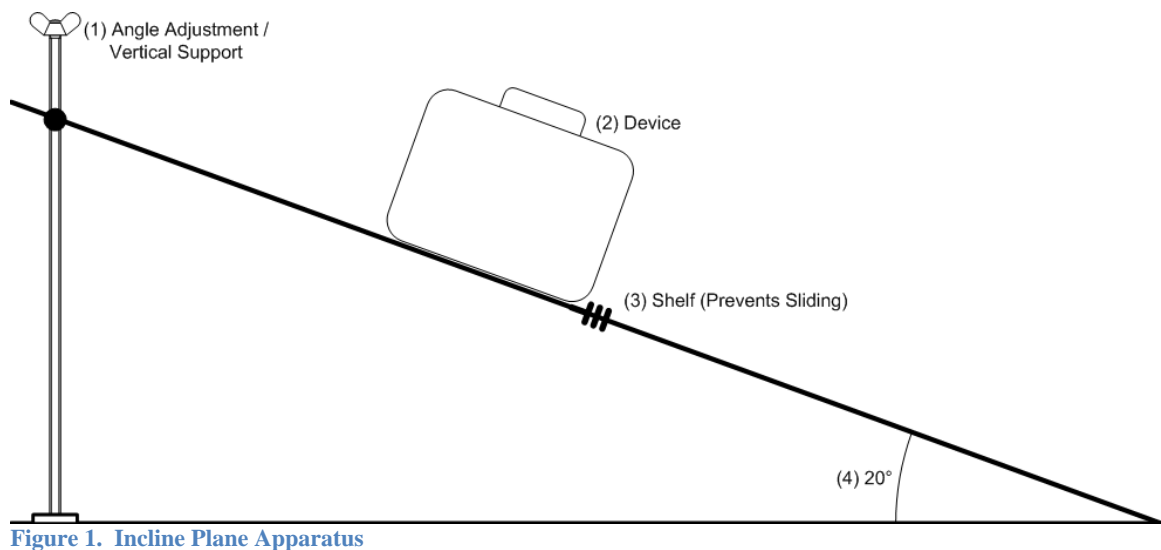

Figure 1. Incline Plane Apparatus
- *Incline plane.* The incline plane must either be fixed or adjustable, capable of achieving a minimum of 20.0° from level. The plane may need a stop to help prevent the fire pot from slipping during this test. When a stop is used, the stop's maximum height must not exceed 6.4 mm (0.25 in.). (Figure 1)